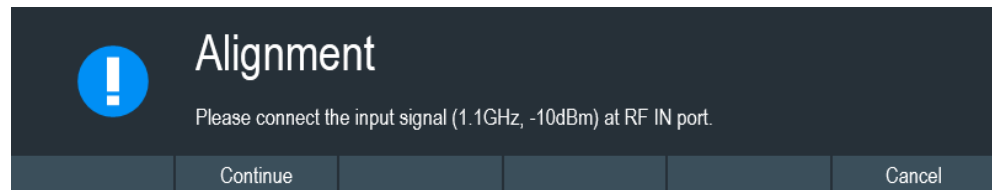

Figure 4-4: Input signal for frequency clock alignment
- Select "Yes" to overwrite existing default alignment data and proceed to perform alignment. The R&S Cable Rider ZPH displays the "Alignment" dialog. Depending on the selected alignment item, different input signal is required. See Figure 4-4 and Figure 4-5.